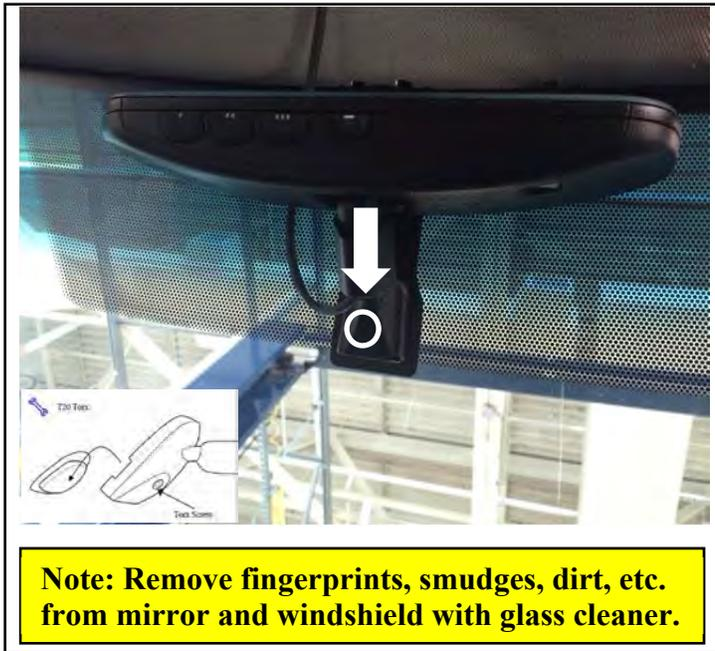

Figure 9
9. Mount the Frameless® EC Mirror w/Compass in reverse of original factory mirror removal. Slide and attach the rearview mirror assembly and tighten mirror set screw with a T20 torx bit or driver. DO NOT over tighten screw. See figure 9.